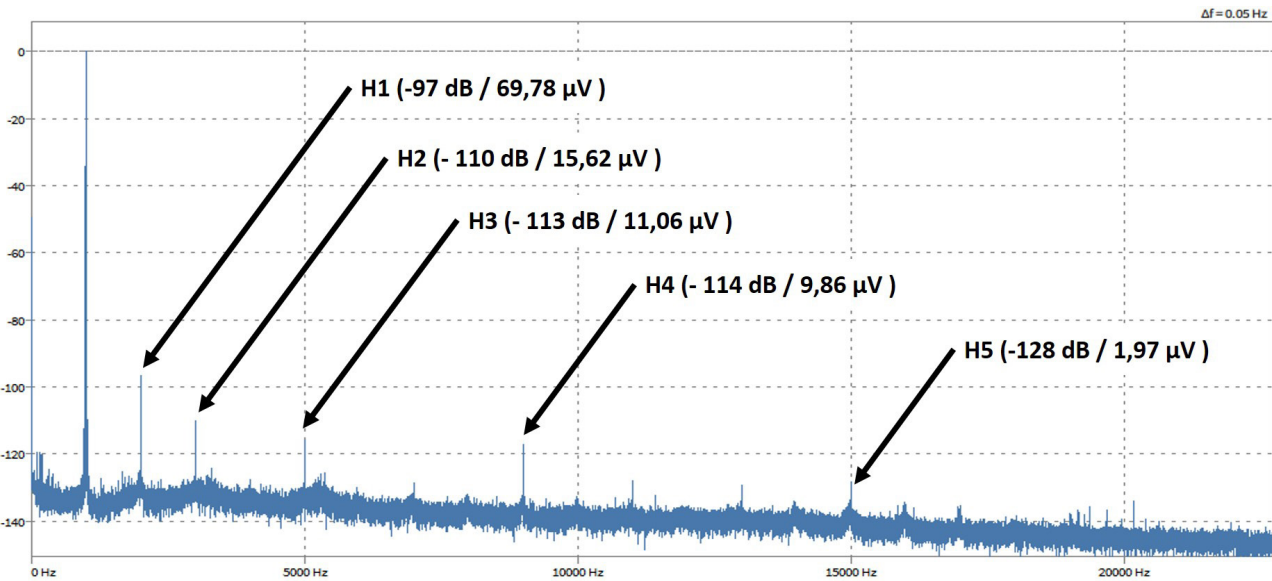

Fig. 216: THD measurement of TRION-1802/1600-dLV-32 (@50 kS/s) where  $U_f = 4.94$  V equals 0 dB
The THD, or total harmonic distortion, is defined as the root-mean-square value of the first five harmonics of the fundamental frequency compared to the fundamental frequency. It is possible to calculate the THD as it is shown in equation 3 (with harmonics stated in [dB]) and equation 4 (with harmonics stated in [V]), if the amplitudes of the harmonics are expressed with respect to the input frequency. Fig. 216 shows how the harmonics are measured from the FFT, when the maximum peak in the FFT is equal to 0 dB.
**Example for TRION-1802/1600-dLV-32 at 10 V range and a sample rate of 50 kS/s with  $U_f = 4.94$  V; (data from Fig. 216):**